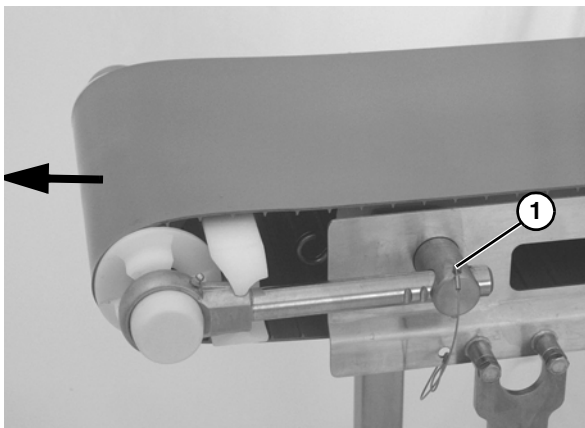

Figure 12
7. Place the idler tail in the down position, and extend the tension end to remove excess slack in the belt (**Figure 12**).
8. Insert the pull pins (**Figure 12, item 1**) on the tension end of the conveyor.